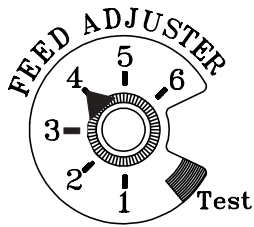

Fig. 19
4. Adjust Feed Rate. If this is your first fire or you are trying different pellets, set the feed adjuster to #4, Fig. 19. This is a conservative number and will probably need to be increased. After you know a feed rate setting that works well, use that setting. Remember; if your feed rate is too high you may waste fuel.